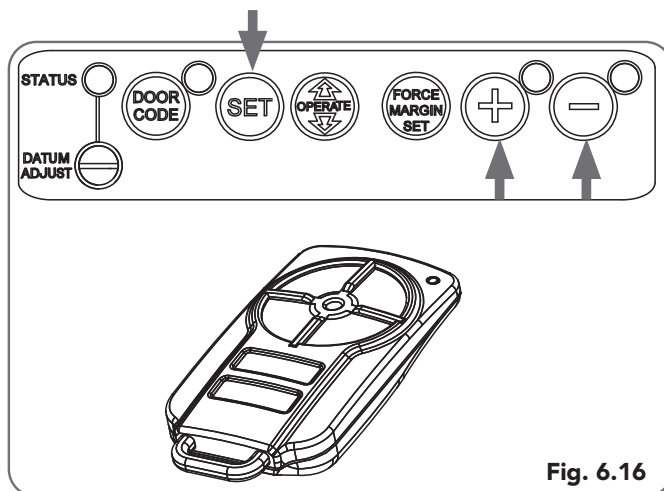

Fig. 6.16
- Press and hold the MINUS (-) button - the door should start closing. (Fig 6.16)